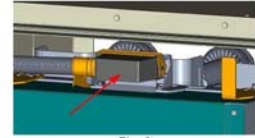

Fig. 2
1. Detach the low-voltage connector. To do this, push the longitudinal fastener of the coupling upwards. (Fig. 2) Store the low-voltage connector according to the operating instructions.